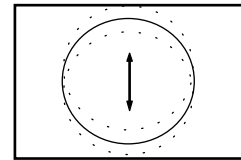

Fig. 2
- d) Adjust the vertical location to obtain picture centering (Fig.2).